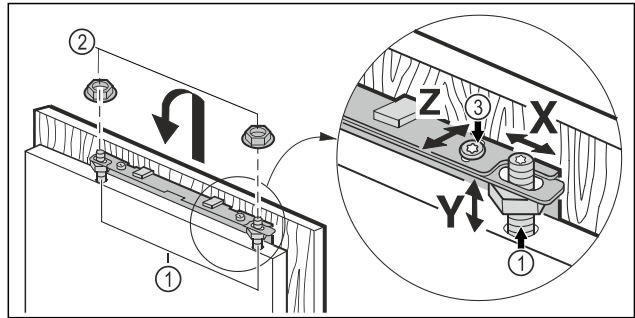

Fig. 46
- ▶ Hook the unit door onto the adjustment bolts Fig. 46 (1) and screw the lock nuts Fig. 46 (2) loosely onto the adjustment bolts.
- ▶ Align the unit door in height  $Y$  and in the lateral inclination: Adjust the adjustment bolt Fig. 46 (1) with a screwdriver.
- ▶ Tighten the lock nuts Fig. 46 (3).